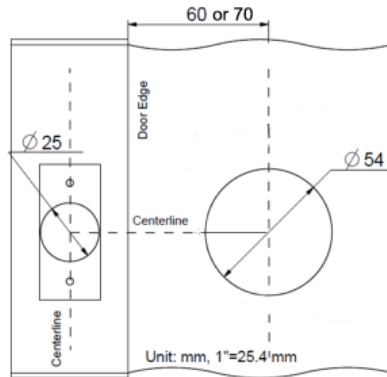

fig. 2
2. Drill holes on door (see fig. 2, and 3).